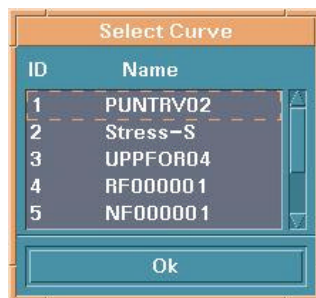

Figure 10.9.9 Select Curve
- The user selects a curve from the SELECT CURVE window, see Figure 10.9.9.